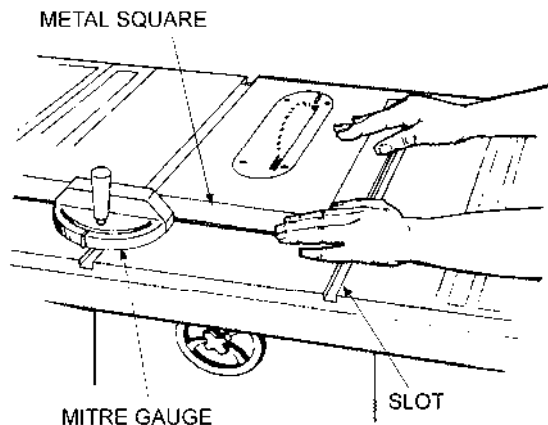

Figure 33
2. Place a metal square against the face of the miter gauge and along one edge of the miter gauge slot and check to see if edge of square fits flush with the miter gauge. See Figure 33.